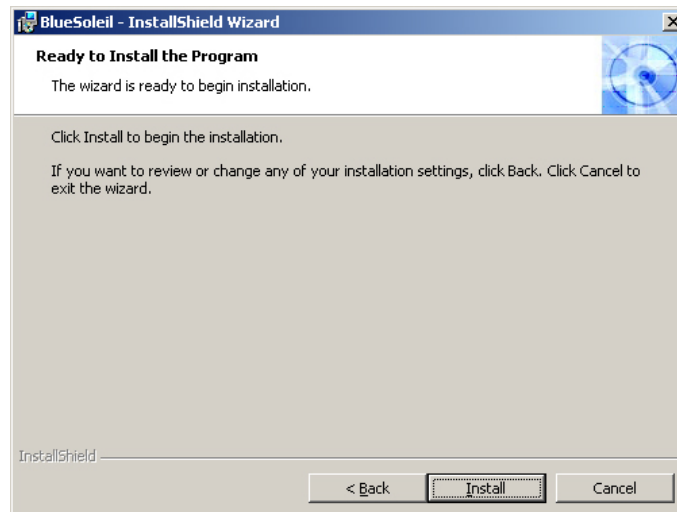

Figure 7-34: Ready to Install the Program
Step 8: Click **NEXT** and the InstallShield Wizard is ready to install the program (**Figure 7-34**).